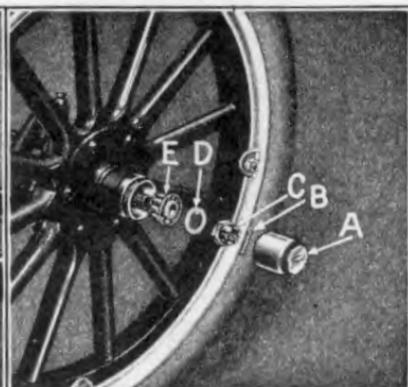

Fig. 58
- (b) Unscrew hub caps (See "A" Fig. 58).
- Screw on adjusting cone (See "E" Fig. 58). Run down cone sufficiently far to permit wheel turning freely yet have no play between bearing cup and cone bearing.